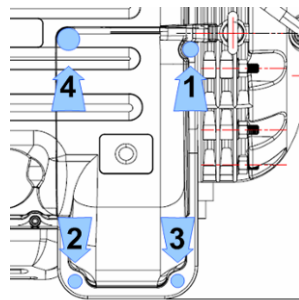

Figure 36 – Mains Input Cover Torque Sequence
- 44. Place the Mains Input Cover and secure it with the M5x15 fasteners. Tighten according to Figure 36 (Mains Input Cover Torque Sequence).